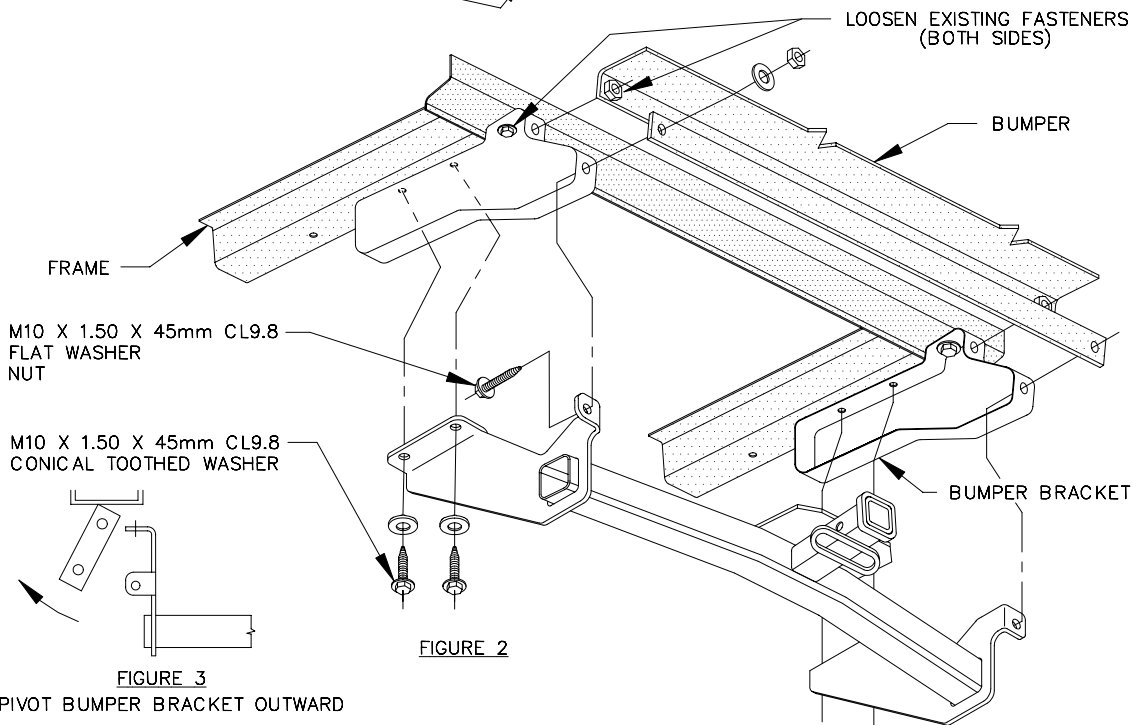

FIGURE 3
2. WHILE PIVOTING THE BUMPER BRACKETS OUTWARD, LIFT THE RECEIVER INTO POSITION, CENTERING THE SLOTS IN THE SIDE BRACKETS OVER THE WELDNUTS IN THE FRAME, SEE FIGURE 3.